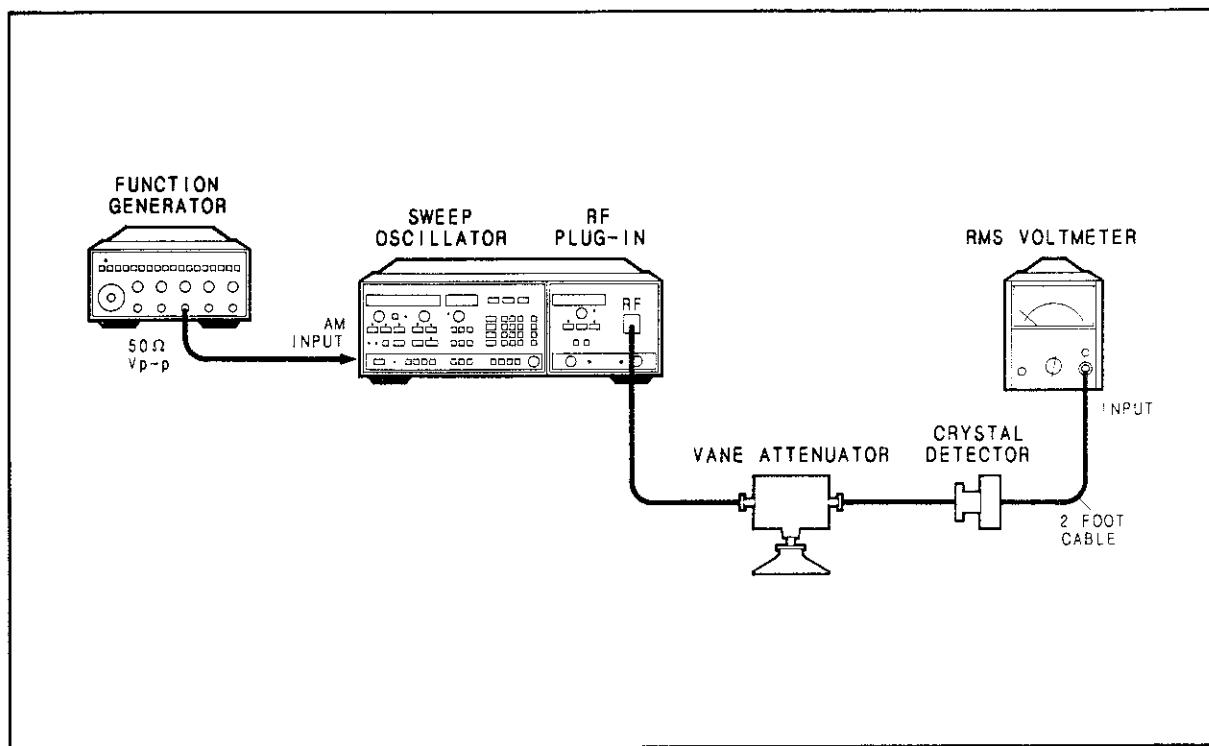

Figure 4-6. Residual AM Test Setup
1. Connect the equipment as shown in Figure 4-6. Set the vane attenuator to 20 dB.